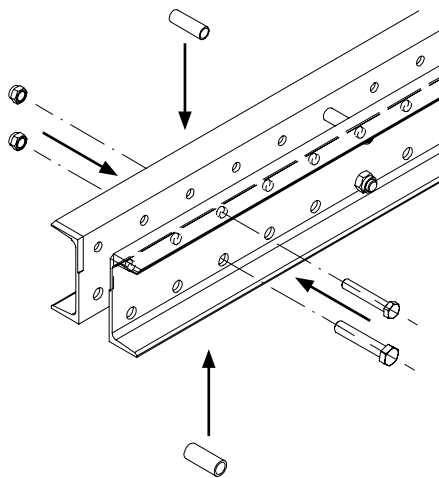

Fig. E1.04a
2. Place the spacers of the RCS Rails in the correct position once again. (Fig. E1.04a + E1.04b)